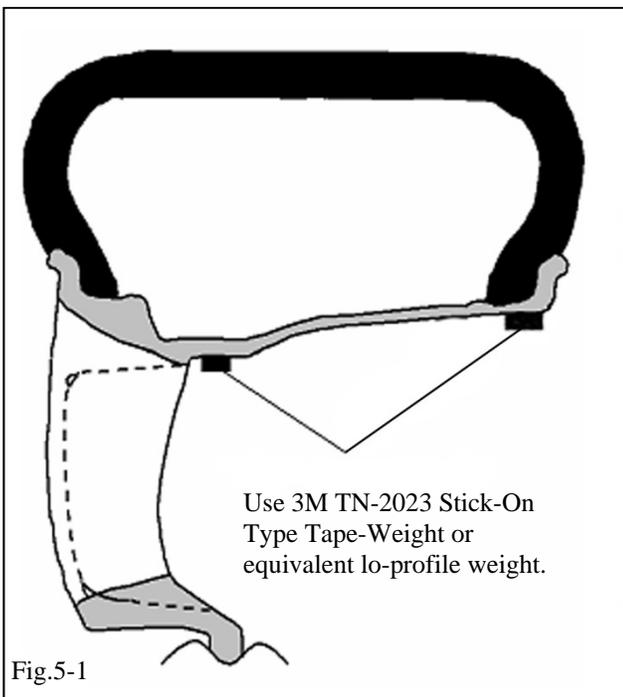

Fig.5-1
- (b) Mount the wheel /tire assembly on the wheel balance machine and balance in DYNAMIC MODE. Enable the LOAD ROLLER, if applicable, to ensure proper bead seating. Use **3M TN-2023** or equivalent stick-on type tape weights (Figs. 5-1 & 5-2).